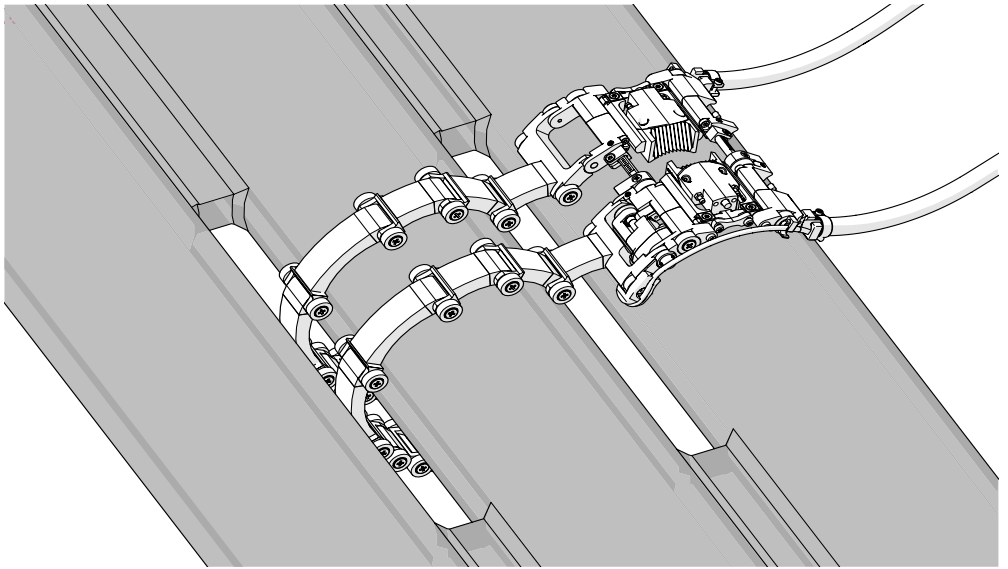
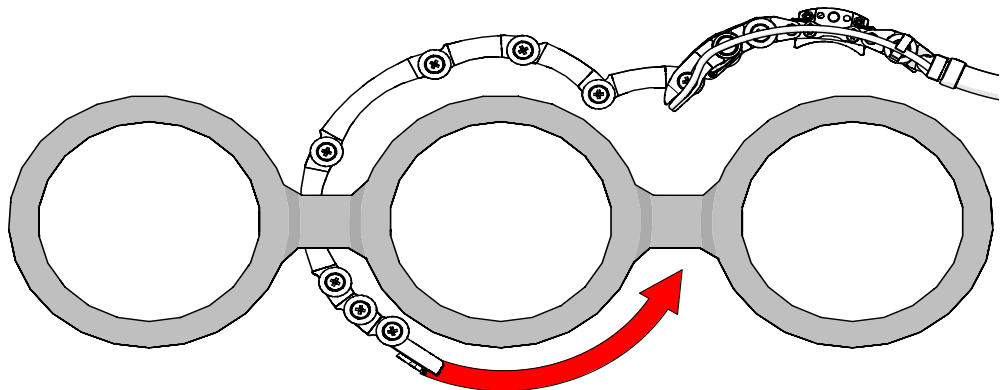

Fig. 90 - Pivot scanner while rotating links around pipe/tube
Fig. 91 - Pivot scanner while rotating links around pipe/tube
3. While guiding the links around the pipe/tube, pivot the scanner body as required (Fig. 90) and (Fig. 91).